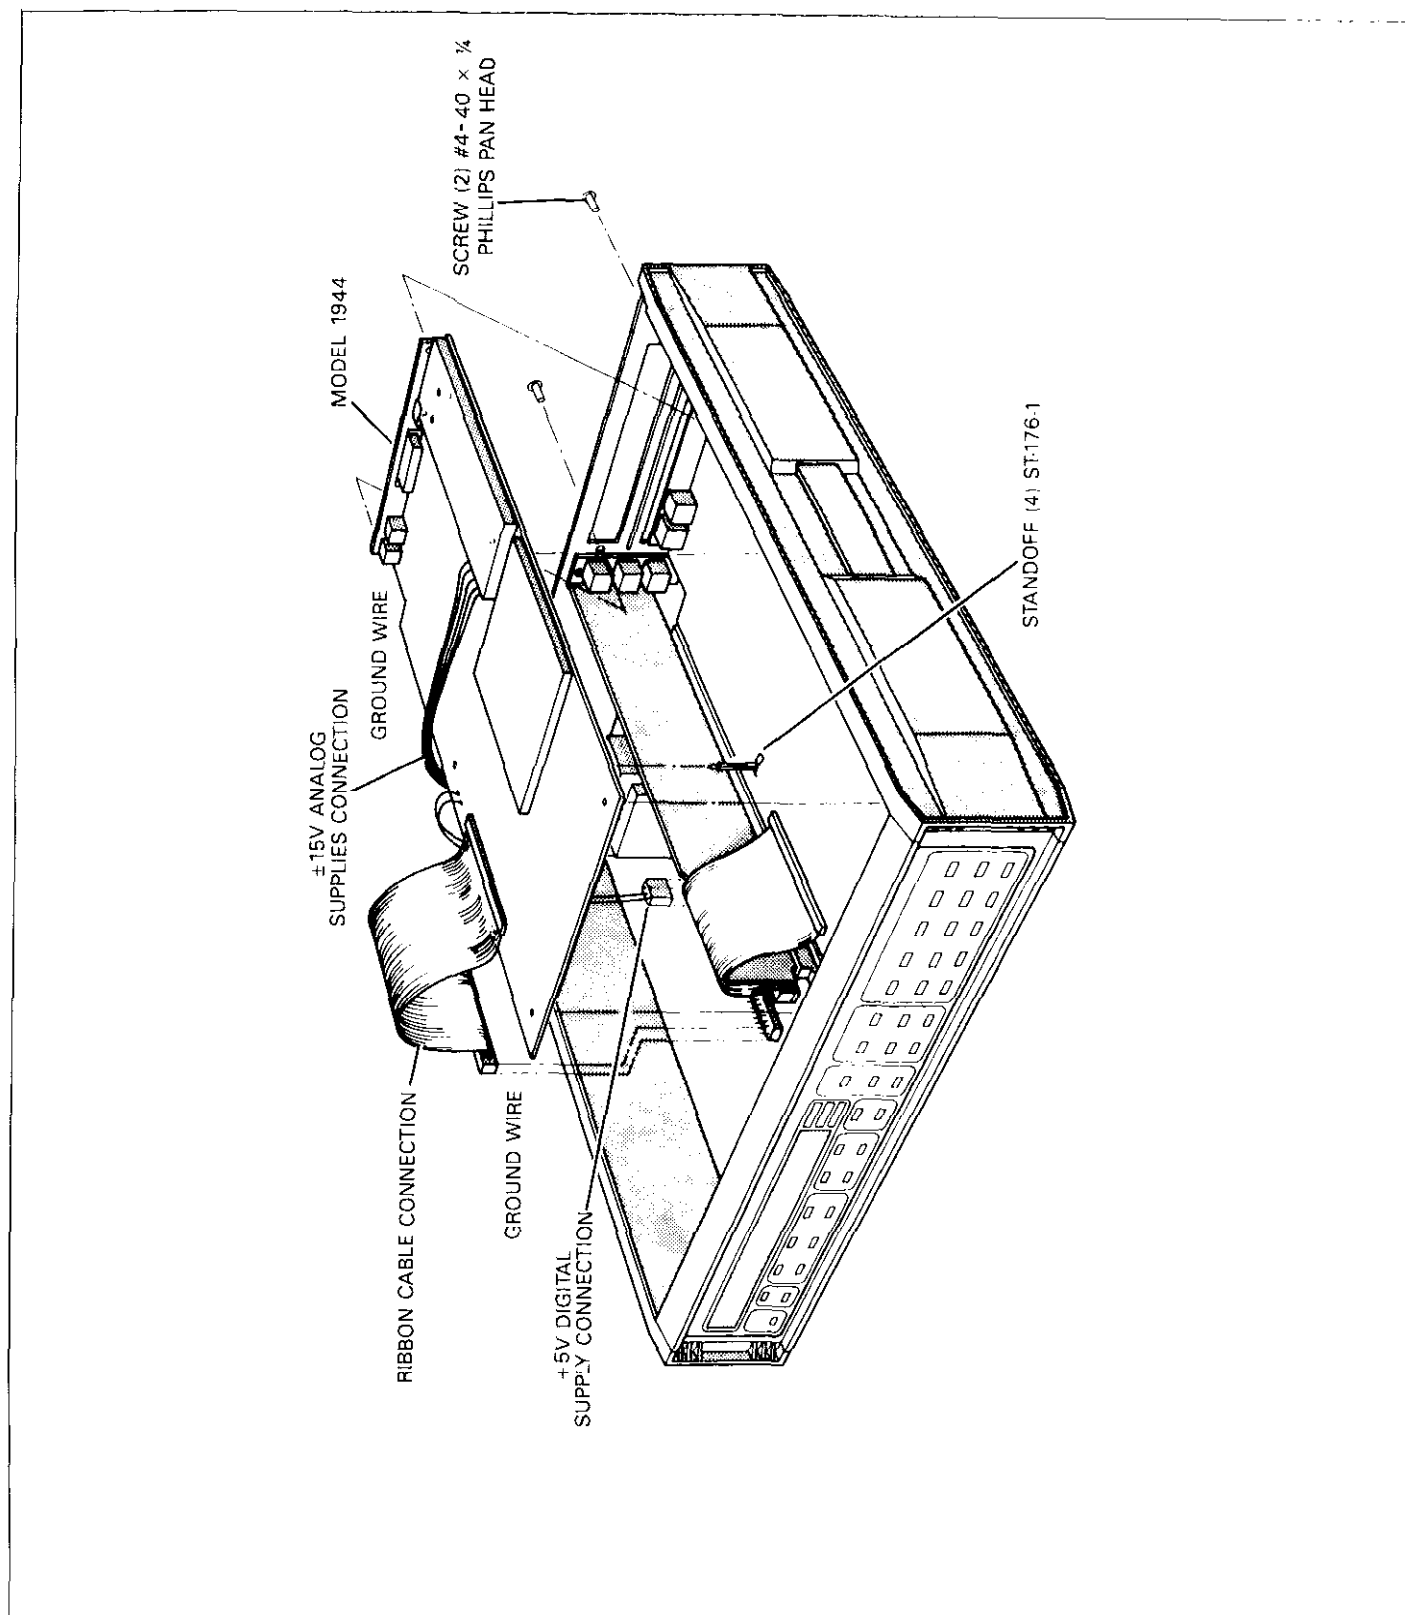

Figure 7-2. Model 1944 A/D Module Installation
Refer to Figure 7-2 and install the Model 1944 as follows.
3. Install the four plastic standoffs supplied with the module in the holes at the edges of the channel 1 A/D module, as shown in Figure 7-2.
5. Plug the +15V and -15V supply connector to J1021 or J1022 (whichever one is presently unused) on the mother board, as shown in Figure 7-2. Line up the plug in the connector with the missing pin on the mother board. Route the cable through the top hole in the I/O board.